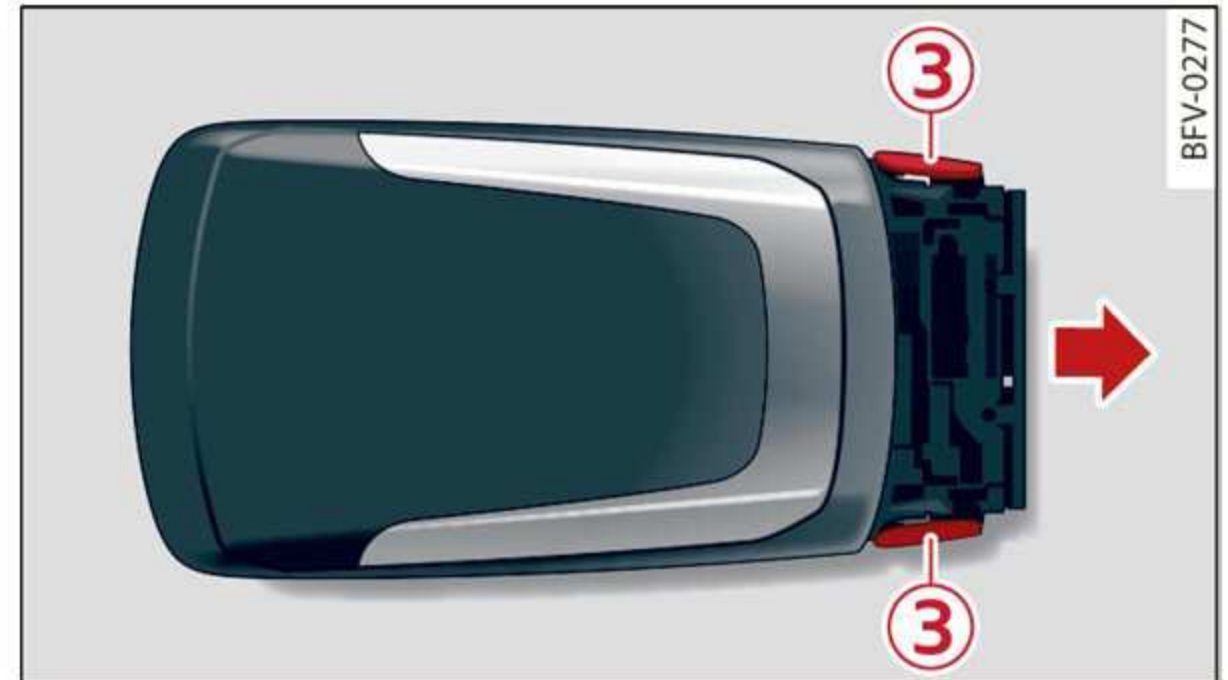

Fig. 14 Remote control key (rear side): removing the battery holder
- ▶ Press the release buttons ③ ⇒ fig. 14 on the battery holder and pull the battery holder out of the remote control key in the direction of the arrow at the same time.